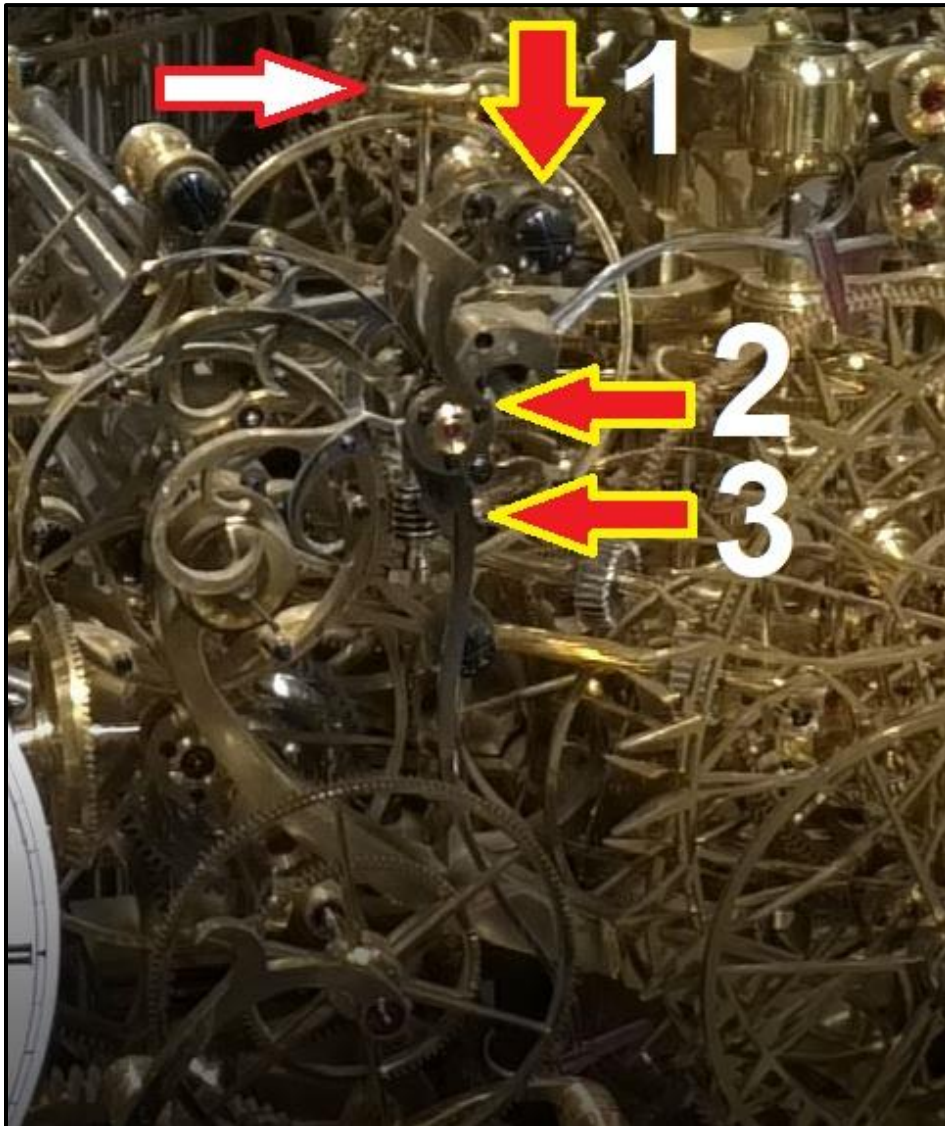

Fig. 8. Detail of escapement pallet assembly
1. Each pair of escapement pallet assemblies come as a unit and are secured by one screw. Each assembly has a pair of locating dowels. Align the dowels and gently push the assembly home onto the balance. The same procedure is done for the remaining pallet assembly. They are then secured by a screw which is already in the balance so finding the right location is readily identifiable (arrow1), Fig. 8. There is a left and right assembly, they cannot be confused.
2. ⚠️Note! There is a knurl knob attached to a rod that rises vertically from each pallet assembly. This is used to adjust the beat of the pallet assembly by rotating it clockwise or counterclockwise around the center of the escapement assembly. These have been set and should not need to be adjusted, (white arrow), Fig. 8.
3. ⚠️Note! There are also a pair of adjusting screws that can be used to adjust the escapement's upper compositor which holds the jeweled pallet and the same is for the lower compositor. This will adjust the depth of each pallet. These too are set and should not need adjustment, (arrows 2 and 3), Fig. 8.